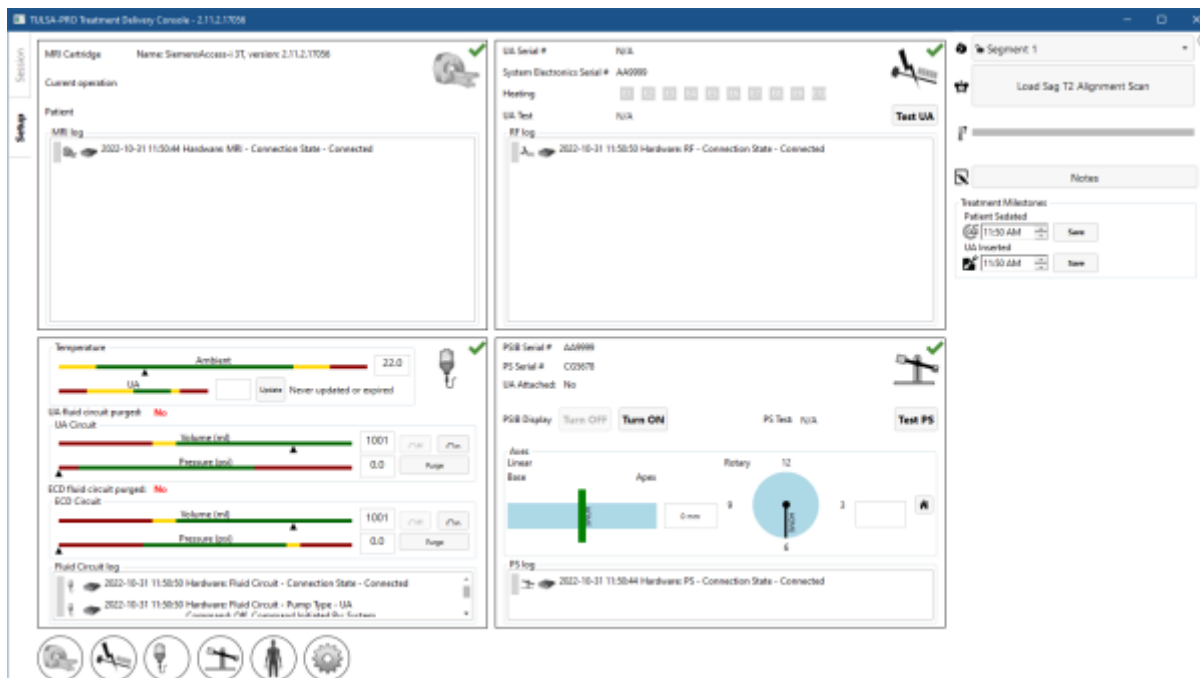

Figure 5: Setup workspace of the TDC software
2. After selecting **New Session**, you will enter the **Setup** Workspace (*Figure 5*) where you can ensure all equipment is functioning properly before proceeding. A green checkmark will appear in the MRI quadrant of the Setup Workspace if the TDC